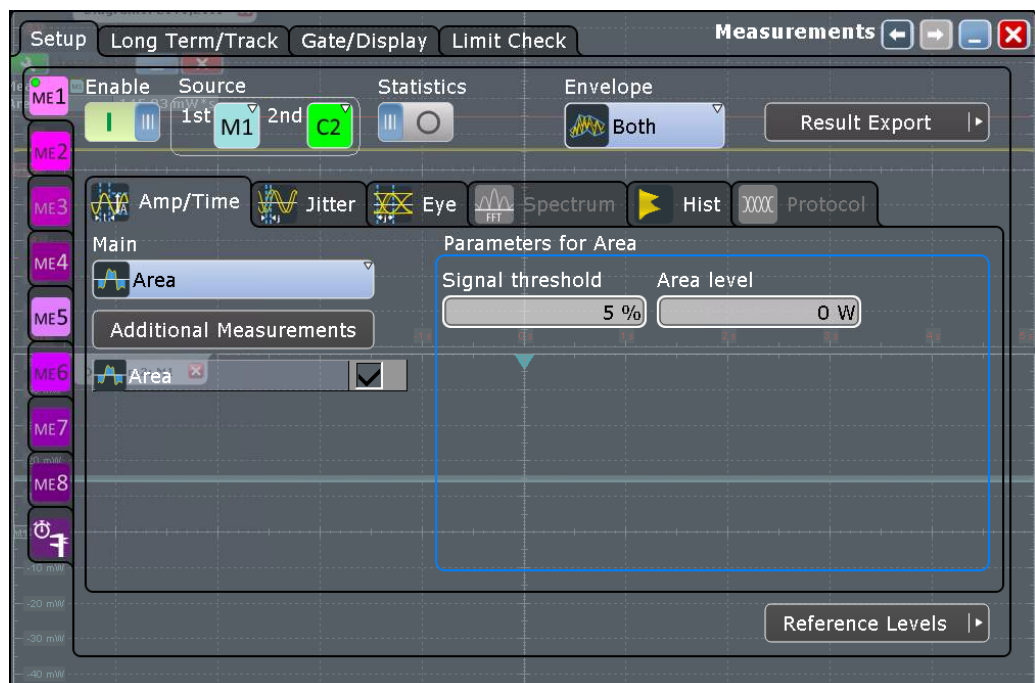

Figure 4-6: Measurement Area settings
10. Configure the *Measurement Area* as shown in Figure 4-6